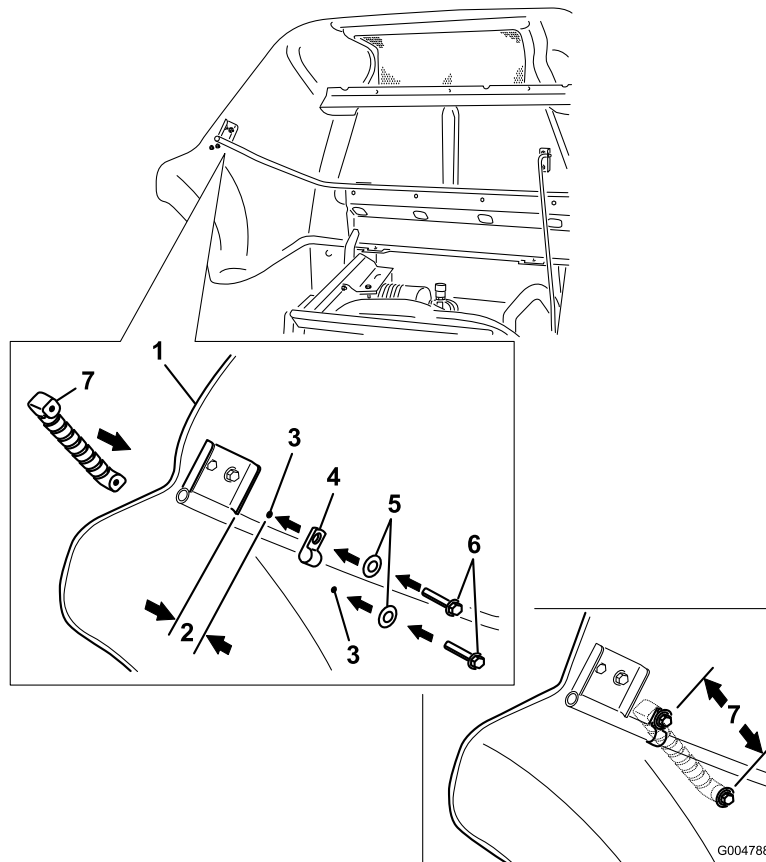

Figure 7
2. Measure up, from the support edge, along the rail 1-1/2 inches (3.8 cm) (Figure 7). Install the clamp around the rail at this location.
5. With the hood handle in the approximate position shown in Figure 7 mark the second spot to drill 4.8 inches (12.2 cm) from the initial drilled hole. Swing the hood handle out of position and drill a 0.3125 inch diameter hole at that position in the hood.